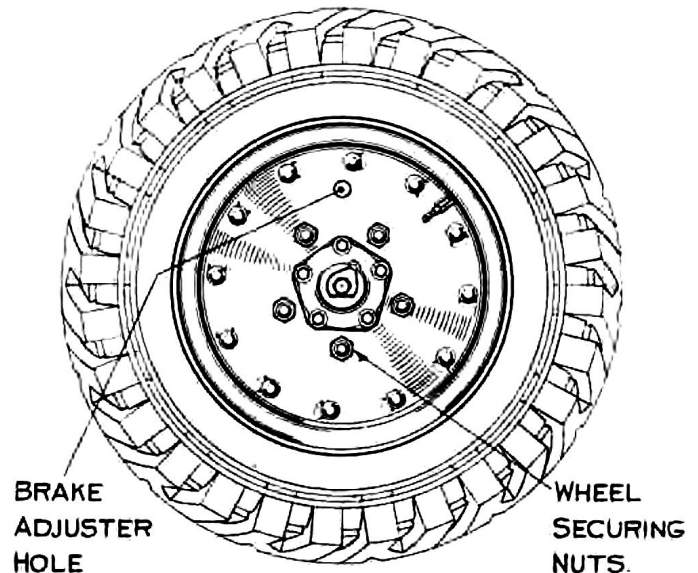

Fig. 20.—WHEEL AND TYRE ASSEMBLY.
(Fig. 20)
**When fitting rear road wheels, the hole in wheel should line up with brake drum cover plate, to enable brake shoes to be adjusted without removing the wheel. (Fig. 20.)**